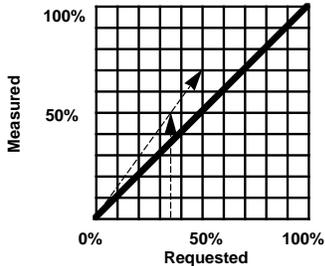

Figure 5 - When a requested 50% halftone dot becomes 70% because of dot gain, a 36% requested dot actually results in a 50% measured halftone dot.
- Work with a calibration program like the one included in the Linotype Utility*, and underadjust the values keeping in mind the ultimate amount of gain. For example, if you know your amount of dot gain, you can predict that a 50% halftone dot may grow to 70%. If you were to draw a graph of this, you would be able to see what value really gives you a 50% dot. (See Figure 5.) It might be that a 36% dot grows to 50% on press. You could then calibrate so that when you asked for a 50% halftone dot from the imagesetter, it would actually give you 36%.⁴